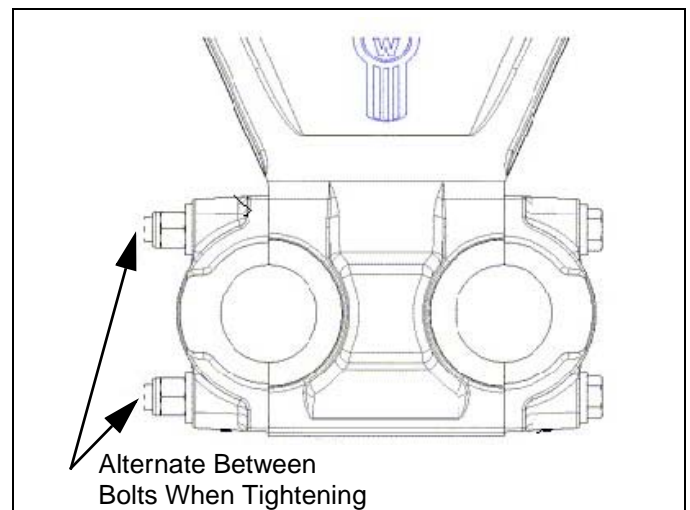

Figure 17-33
17. Tighten the joint evenly by alternating back and forth between the top and bottom bolts a minimum of 5 times (ensuring the joint is evenly clamped and the bushing is properly compressed). See Figure 17-33.
18. Repeat tightening procedure at all bushing locations. See Figure Figure 17-33.